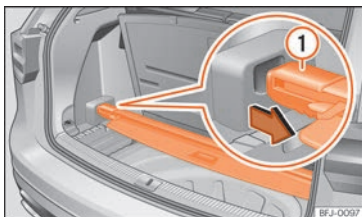

Fig. 154 Under the boot floor: store the rear shelf.
- Place the rear shelf in the corresponding housing »» Fig. 154.